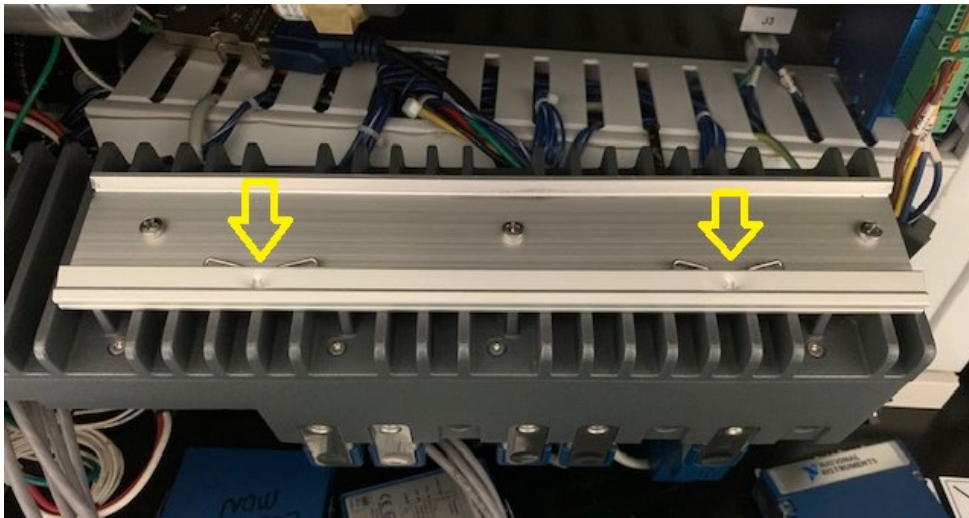

Figure 4
- Be sure that the spring clips are on the top side of the new cRIO (**See Figure 4**)